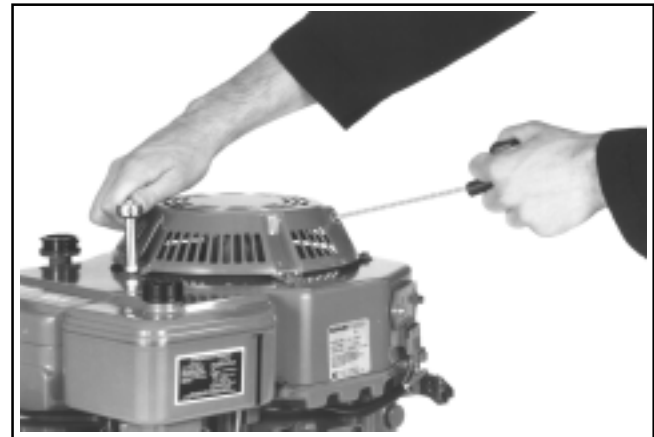

Figure 7-2. Installing Retractable Starter.
2. Pull the starter handle out until the pawls engage the drive cup. Hold the handle in this position and tighten the screws securely. See Figure 7-2.